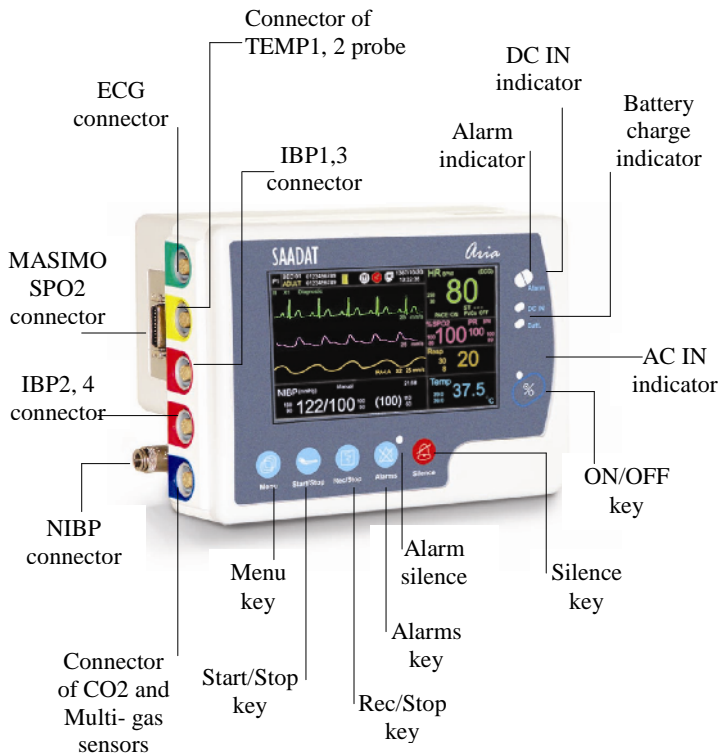

Figure 1-1
Aria Patient Monitor (Figure 1-1) is adaptable to adult and neonatal usage. It can monitor vital signals as ECG, Respiratory Rate (AWRR, RR), NIBP, SPO₂, CO₂, N₂O, O₂, Anesthesia Agent (AA), Dual-channel TEMP and four- channel IBP. It contains modules measuring various parameters and features in compactness, lightweight and portability. Battery facilitates transportation of patient.